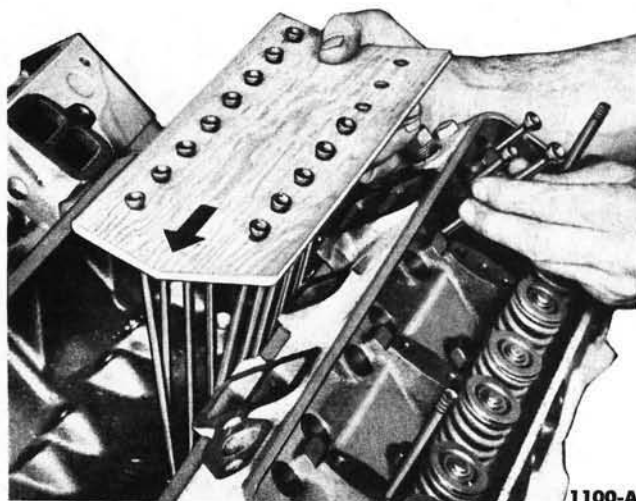

FIG. 18—Valve Push Rod Removal
3. Remove and identify the valve push rods so they can be replaced in their original positions (Fig. 18).